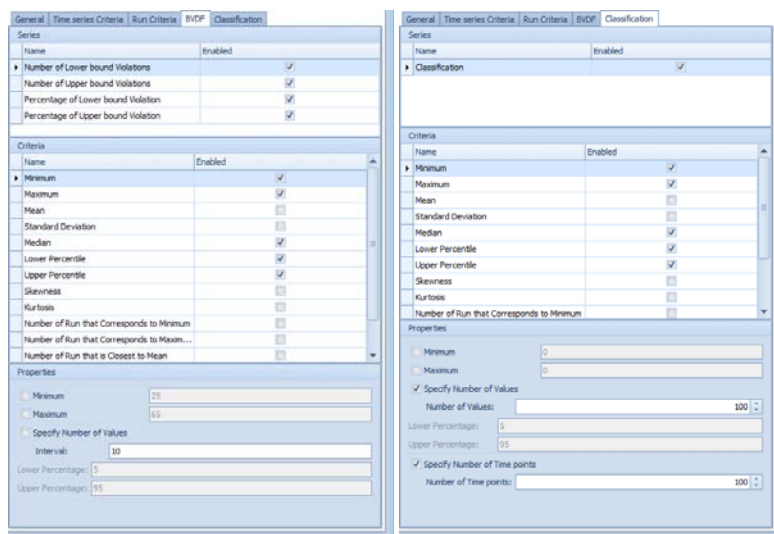

Figure 4.21 BVDF (left) and Classification (left) tab pages for the UA experiment
- **BVDF (Figure 4.21):**
- **Classification (Figure 4.21):**